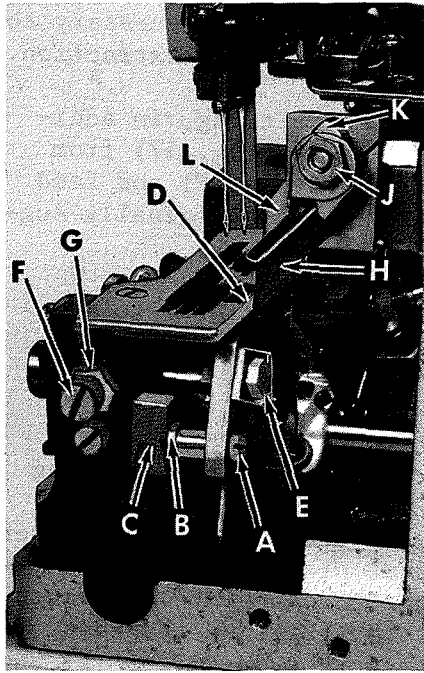

Fig. 16
Replace the lower knife holder assembly. In replacing the lower knife holder assembly, tighten screw (A, Fig. 16) so that when the face of the flange on sleeve (B) seats against throat plate mounting bracket (C), a free lateral motion of the lower knife and holder assembly is obtained when the knife is manually pressed at its upper corner. Lower knife (D) should be set with cutting edge flush with top of throat plate. Adjustments are made with hexagonal head screw (E) which holds the lower knife. Lower knife is spring pressed against the upper knife, so no lateral adjustment is necessary when the width of trim is changed.
Replace the upper knife assembly. Clamp upper knife (H, Fig. 16) in position, setting nut (J) to hold clamp (K) in its most clockwise position against upper knife. At the bottom of its stroke, front cutting edge of upper knife should extend not less than  $1/64$  inch (.40 mm) below cutting edge of lower knife. The chain guard (L) should be set down against the upper knife and slightly back from the cutting edge.